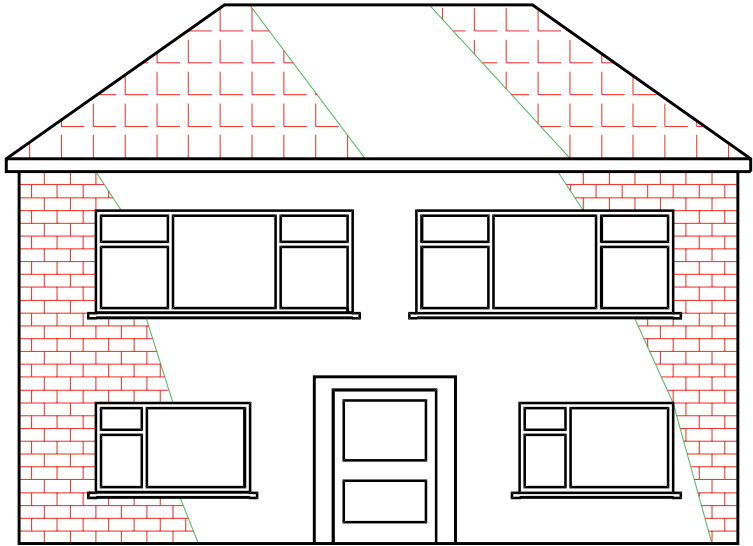

Fig. 8.17 Seventh example – construction on layer **HATCH**
5. Make the layer **HATCH** current and add hatching to the areas shown in Fig. 8.17 using the hatch patterns **ANGLE** at scale **2** for the roof and **BRICK** at a scale of **0.75** for the wall.